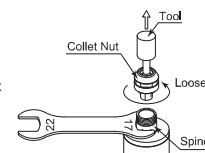

Fig. 6
- Remove the tool according to the section 4. "CHANGING THE TOOL" procedure above and remove collet nut assembly. (Fig. 6)